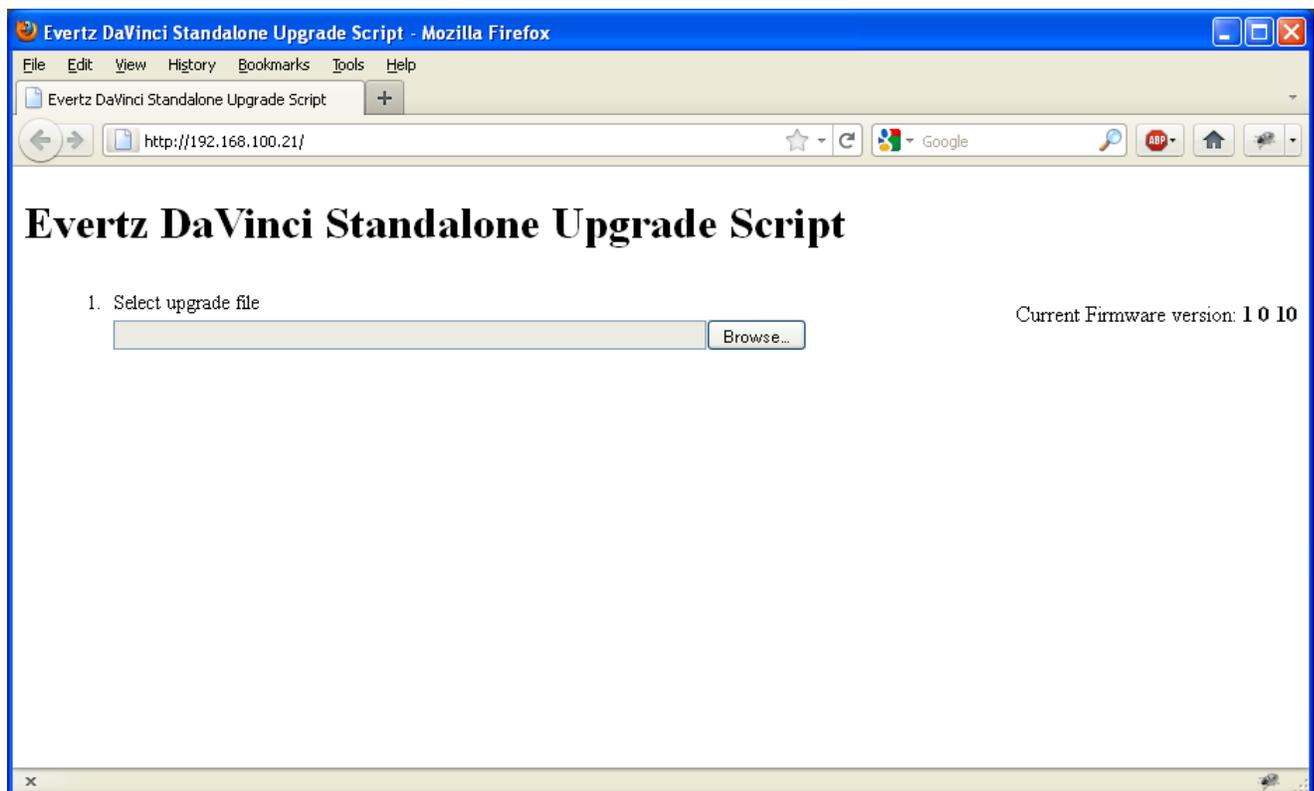

Figure 7-1: EQT Upgrade Screen for Browse
1. Using a standard web browser on the same network as the EQT, browse to the IP address of the EQT. This should direct you to a web page similar to Figure 7-1 below. This screen will also show the current firmware version. In the case of this example, the version is 1.0 build 10.